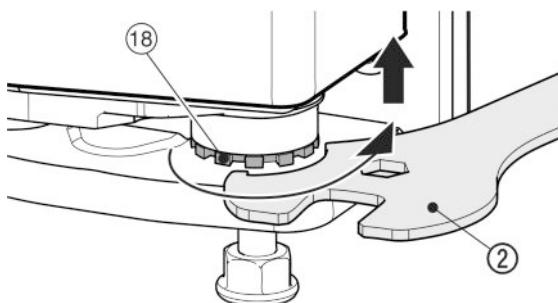

Fig. 18
- ▶ In order to lift the door unscrew the mounting block *Fig. 18* (18) clockwise with the supplied open-end wrench *Fig. 18* (2). When delivered the mounting block is completely screwed in.